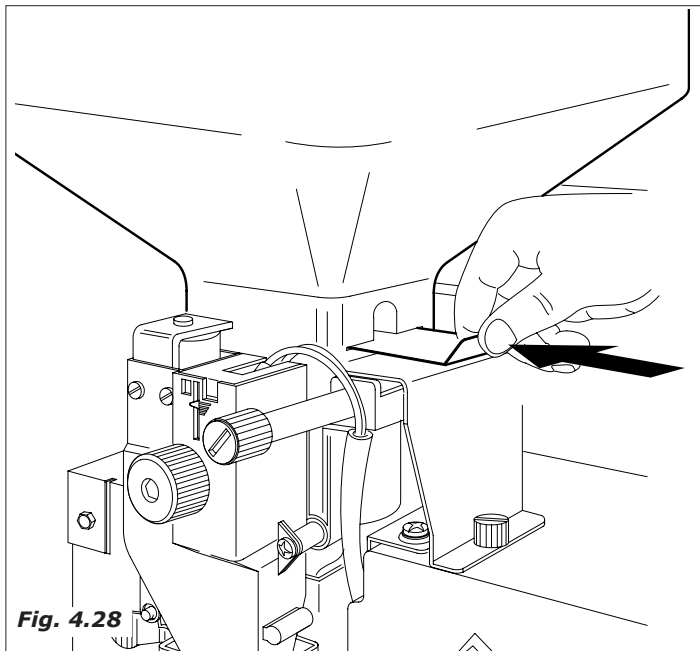

Fig. 4.28
- so as to effect the loading is necessary remove each container (Fig.4.28). Particularly, for the coffee bean container, it is necessary close the chute door before removing the container.